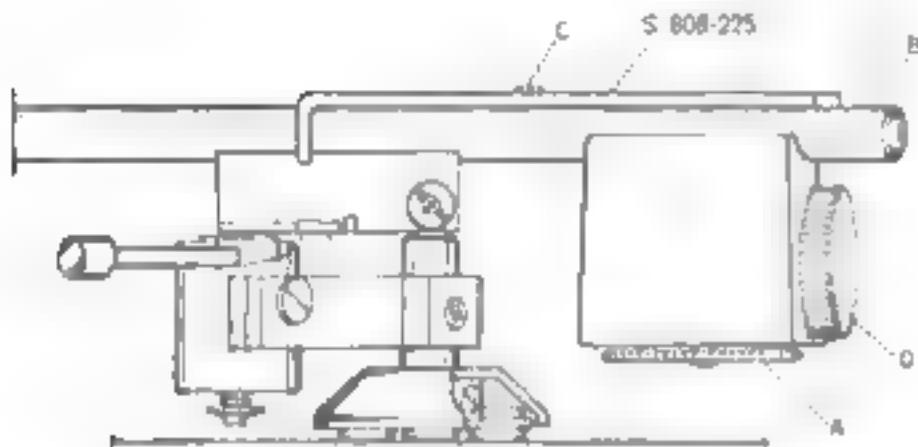

Fig. 8. Rear part of the pick-up arm.
- Place the counterweight underneath the pick-up arm extension B, the sliding tube entering the corresponding hole on the counterweight (see Fig. 8).
- Place the stylus force calibration plate (part S 808-225) on top of the pick-up arm extension according to Fig. 8 and 9, with pin C on the arm extension in the slot of the calibration plate. Position the calibration plate with pin C to the indentation of the scale corresponding to the stylus force recommended by the cartridge manufacturer. Each indentation corresponds to $\frac{1}{4}$ gram.